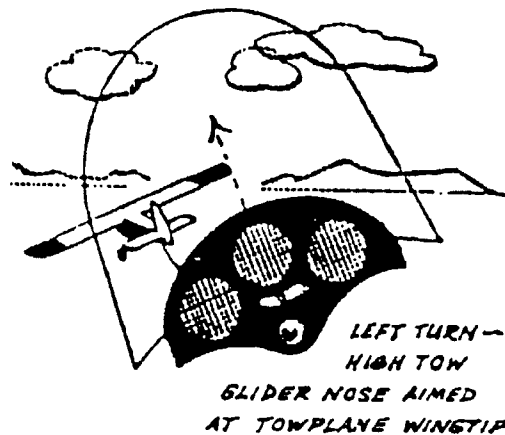

FIGURE 6-2
a. Without any visible reference for this arc, the best technique is to wait two seconds after the tow plane has banked into the turn before banking your sailplane. Rolling into the turn requires use of ailerons and rudder in the same direction to keep the yaw string centered (pointing at you). As you approach the tow plane's bank angle, relax some aileron and rudder inputs so you don't over-bank. When your bank matches the tow's bank, he will stay stationary on your canopy. Ask your Instructor for additional references. Figure 6-2 shows how an aerotow turn should look.